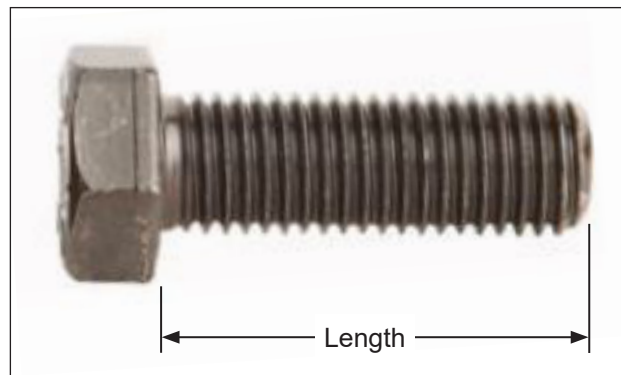

Figure 3 — Measuring Cap Screw Length
8. Measure the length of the cap screw (refer to Figure 3). The proper length is $1\frac{1}{2}$ ".